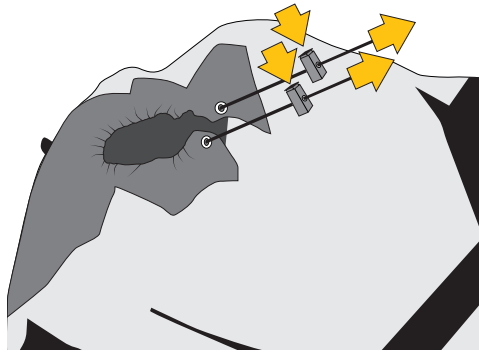

Fig.34
f) close the hood by pulling on the specific cords (fig. 34).